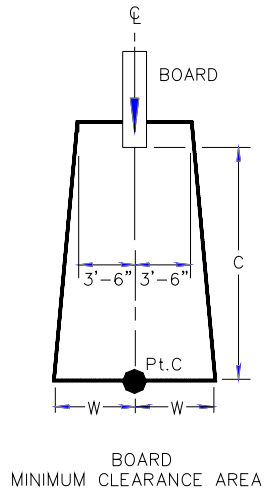

FIG. 3
- B. The minimum clearance area in front of a diving board is a minimum distance of three feet six inches (3'-6") on either side of the board's centerline. Pt. C extends a minimum distance of "C" from the tip end of the board. The width distance "W" on either side of Pt. C is given in CHART 1 and shown in FIG.3.
See Article 5 contained in ANSI/NSPI-5 2003 STANDARD FOR RESIDENTIAL INGROUND SWIMMING POOLS and refer to FIGURE 3 and Table 1 for Minimum Water Envelope Dimensions AB, BC and Width at Point C.